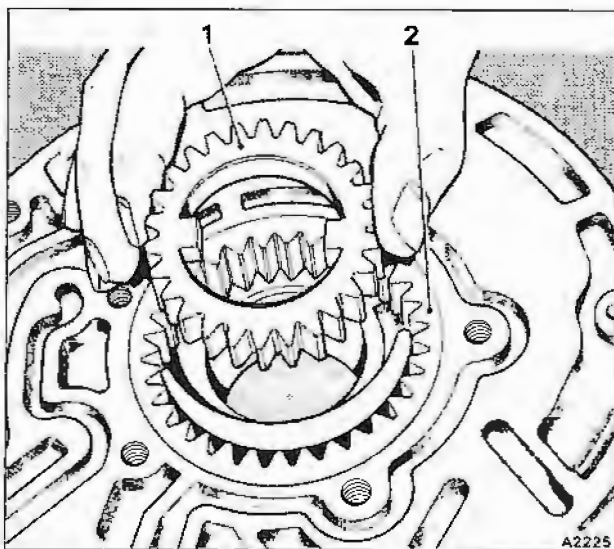

Fig. T17-3 Removing the pump gears
7. Remove the gears from the pump body as shown in figure T17-3.
Fit the drive gear with the drive tang's uppermost (see fig. T17-3).